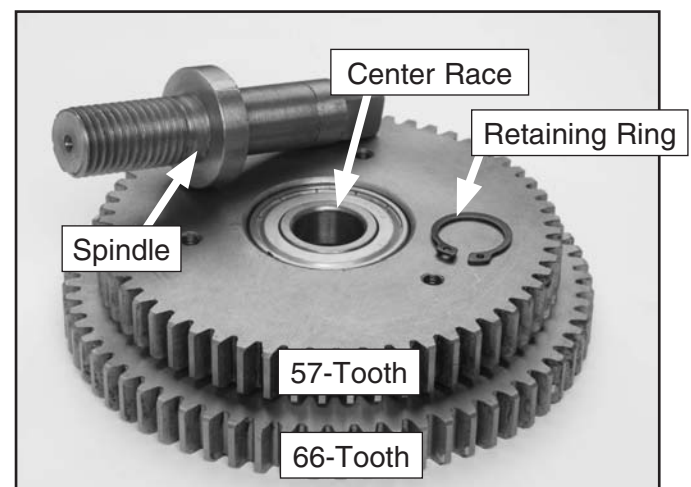

Figure 59. Spindle and center gear assembly.
4. Using retaining ring pliers, remove the retaining ring from the spindle (**Figure 59**).
8. Press the two gears together and tighten the three cap screws (**Figure 59**).